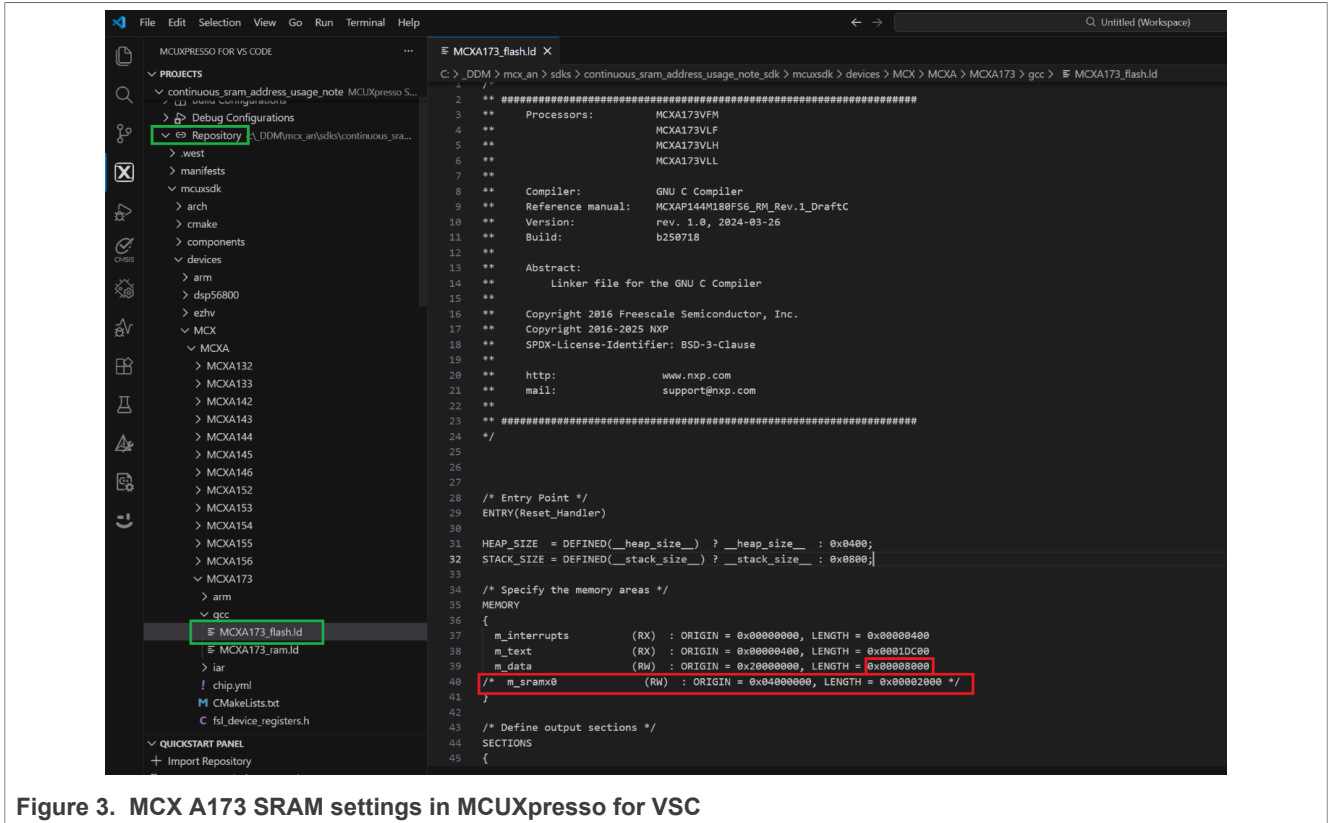

Figure 3. MCX A173 SRAM settings in MCUXpresso for VSC
- For MCX A173, as shown in Figure 3: